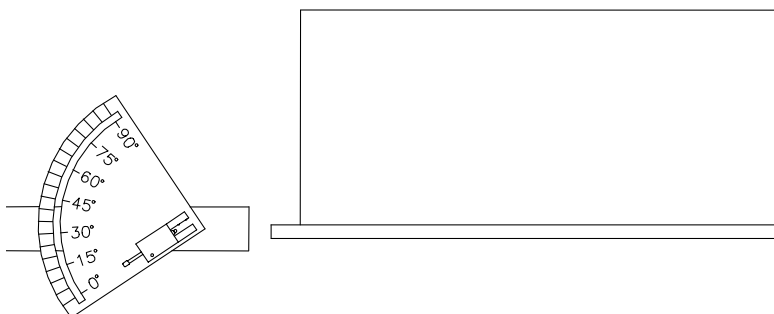

Fig. 2. Projectile motion apparatus and landing pad.
1. Before starting the measurements, familiarize yourself with the apparatus. The central feature of the setup is a "spring-loaded gun" mounted on a plate marked in degrees as shown in Fig. 2. The plate can be rotated around a horizontal axis to set the initial direction of motion: a desired angle can be set by loosening the knurled screw attached to the plate, aligning the required angle mark with the horizontal mark on the stand and then tightening the